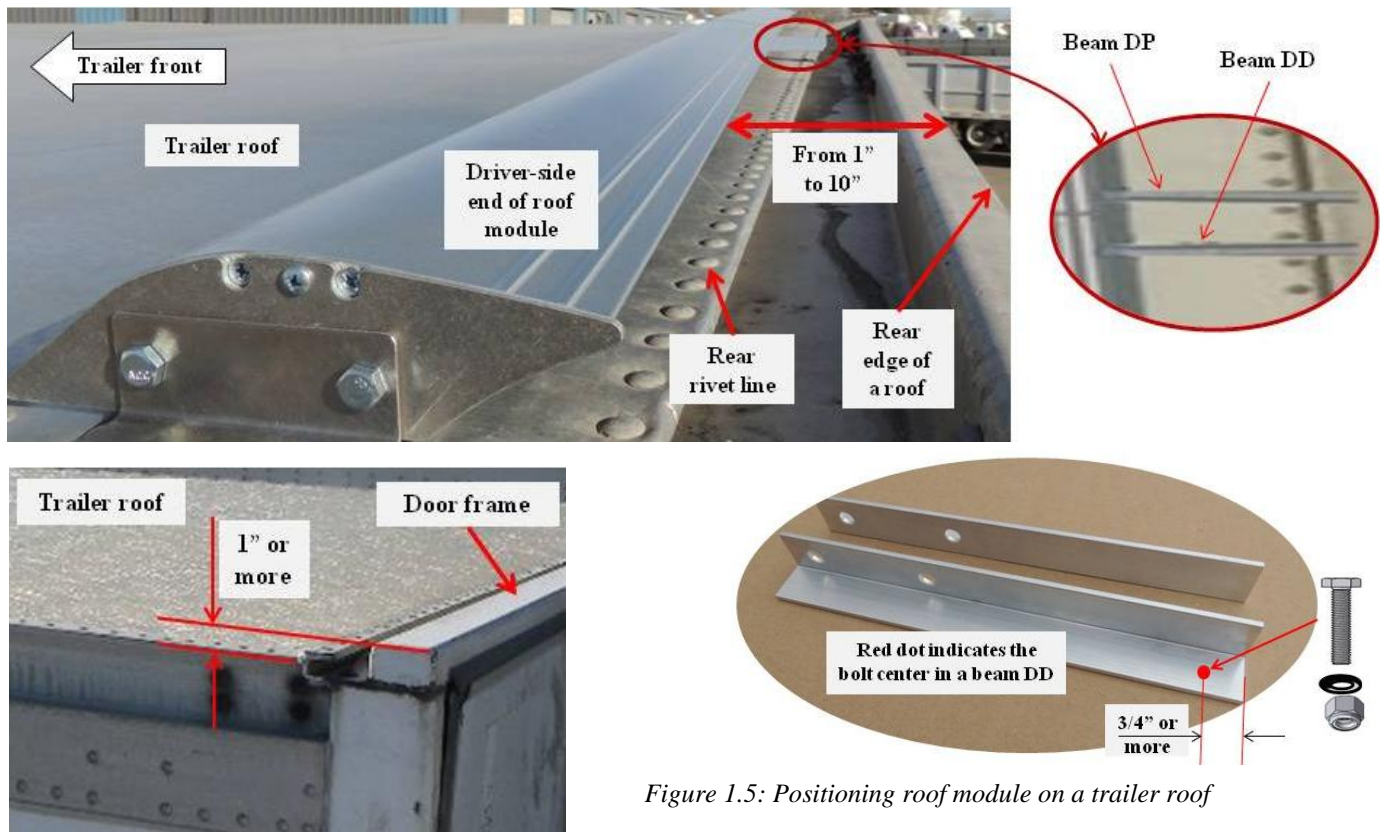

Figure 1.5: Positioning roof module on a trailer roof
1.2.2: Position the rear edge of a module at a distance from 1" to 10" from the rear edge of a trailer roof as illustrated in Figure 1.5. Do not place the bottom surfaces of the sections over rivet heads or other obstacles.
Safety beams DD and DP are to be attached to a trailer roof by bolts. For a typical trailer as in Figure 1.5, the bolts may be placed on or near the rear rivet line. However, trailer roofs are of different configuration and specific locations for the bolts may differ from one configuration to another. For some trailers safety beams are unsuitable because they cannot be bolted to the roof. If this happens to be the case for your trailer, please contact Avantechs, Inc. for alternative options.
1.2.3: Choose location for the bolts for safety beams DD and DP on a trailer roof. Make sure that the rear beam ends extend at least 3/4" behind the chosen bolt centers; Figure 1.5.
The door frame of some trailers sticks up more than 1" above the roof level as illustrated in Figure 1.5 which can potentially interfere with the generated vortices. In order to ensure the best performance of the roof module in such cases, position the module at the maximum distance from the door frame allowed by the length of safety beams but not farther than 10" from the rear roof edge.
1.3.1.1: Check carefully the chosen position of the roof module: a distance from the trailer rear edge shall be between 1” and 10”, the rear ends of safety beams shall extend back sufficiently for the safety bolts connection, and the safety brackets lay properly on the trailer roof “lips”; Figures 1.5 and 1.6.